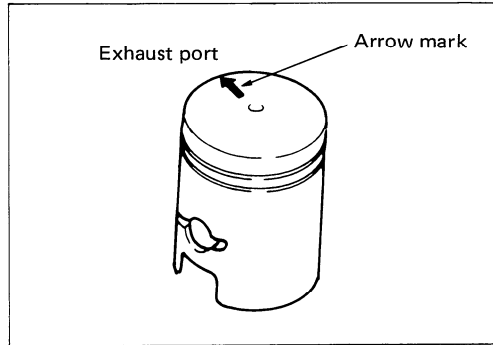

Fig. 5-5-24
19. As the piston pin is off-center, the piston can be installed in only one direction. Install the piston with the arrow mark stamped on the piston head pointing toward the exhaust port, not toward the third scavenging ports. (Fig. 5-5-24)